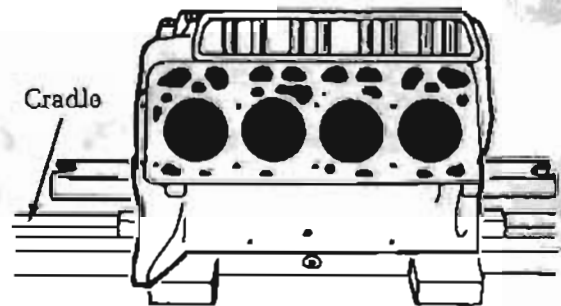

Figure 6
5. Place the engine block on the parallels near the center of the Cradle (Figure 6).